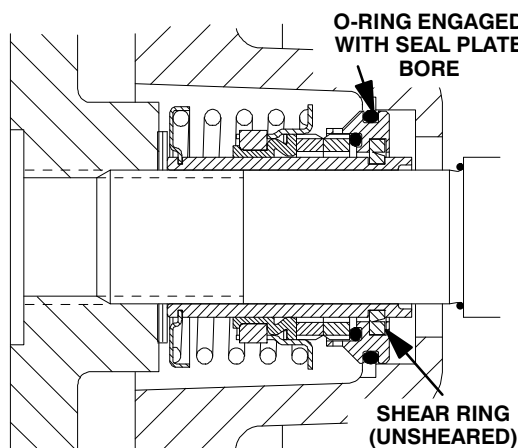

Figure 15. Seal Partially Installed
Clean and inspect the impeller as described in **Impeller Installation and Adjustment**. Install half of the set of impeller shims (3) provided with the seal, and screw the impeller onto the shaft until it is seated against the seal (see Figure 15).